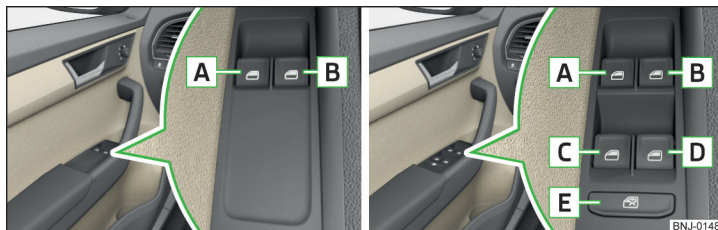

Fig. 38 Buttons for window-openers Version 1/version 2
Depending on the equipment configuration, the front windows - **Variant 1** or the front and rear windows - **Variant 2** be operated with the door buttons » Fig. 38.
In **Variant 2** » Fig. 38 the **driver's window** can be automatically fully opened by pressing the button briefly until it stops. When pressed again or after withdrawing the button, the window will stop.
In **Variant 2** » Fig. 38 the **driver's window** can be automatically closed completely by drawing the button to the stop. When drawn again or after pressing the button, the window will stop.
➤ Press the button **E** » Fig. 38.
If the rear seats are accommodating people who are not completely independent, e.g. children, it is recommended that for safety reasons the buttons in the rear doors are disabled with the button **E** » Fig. 38.
- **Variant 1** of the power window » Fig. 38 on page 57 **has no** force limiter. The windows should nevertheless be closed carefully – risk of injury!
- **The passenger window in variant 2** of the power window » Fig. 38 on page 57 **has no** force limiter. The windows should nevertheless be closed carefully – risk of injury!